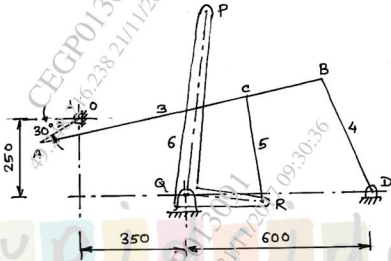

Fig. 1
- (b) The configuration of wrapping machine is shown in Fig. 1 Determine by using ICR method, the velocity of point P on bell crank lever PQR, if the crank rotates at 80 rad/s . The dimensions of various links are $OA = 150 \text{ mm}$, $AB = 950 \text{ mm}$,